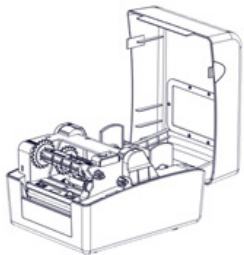

Fig. 2.2.1
- 1) Hold the cover open spanner with both hands and turn it upward to open the top cover of printer (see Fig. 2.2.1);